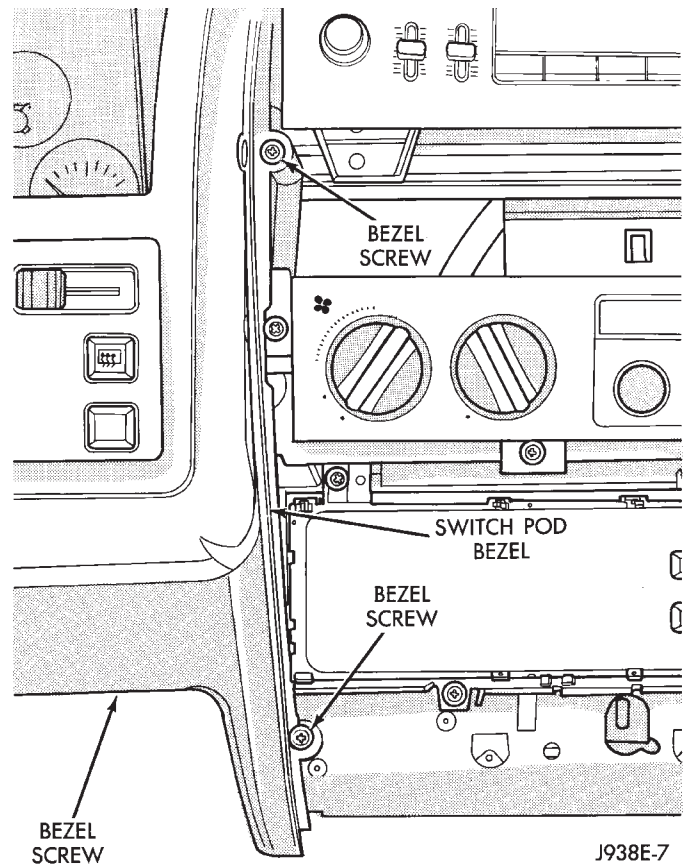

Fig. 16 Right Hand Switch Pod Bezel Screws
- (20) Remove 3 screws holding right hand side of switch pod bezel (Fig. 16).